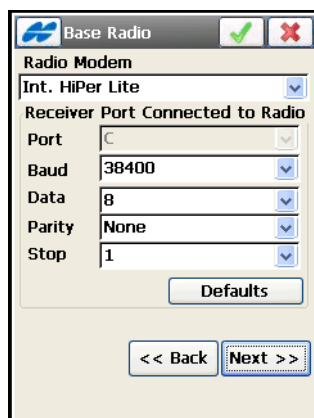

Figure 4-9. Configure Base Radio
2. Set the Base Radio – choose the modem to be used and its parameters, and tap **Next** (Figure 4-9).
9. Set the Rover Radio in a manner similar to the Base Radio setting (see Figure 4-9 on page 4-8) and tap **Next**.